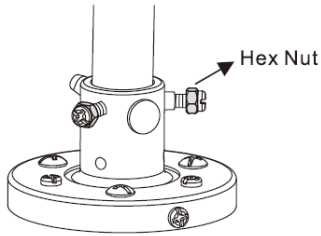

Fig. 8
10. Make sure position of two Hex nuts are on the side of screw head. Then tighten 2 jam screws (Fig. 8).